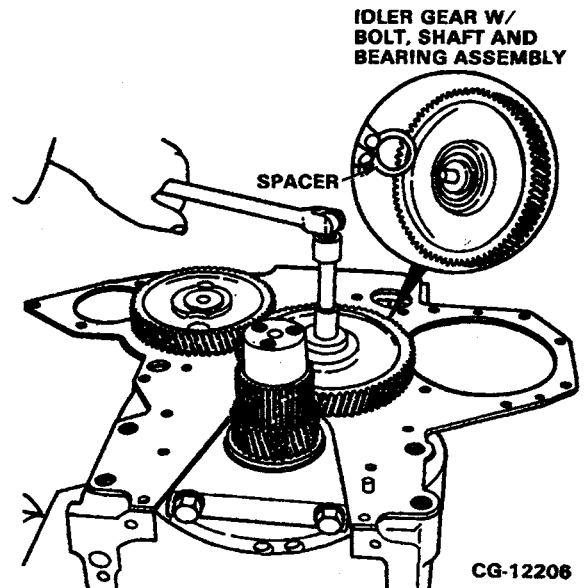

Figure 8.14. Remove Idler Gear
1. Remove the idler gear as follows: (Refer to Figure 8.14)